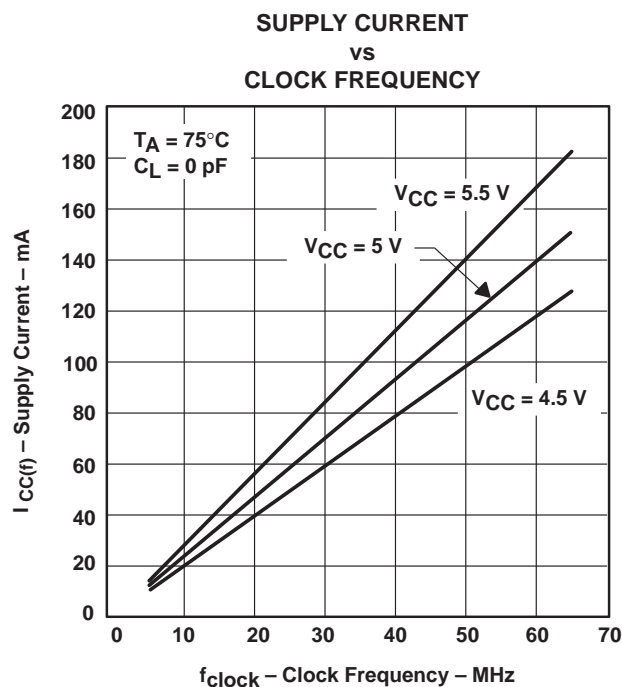

Figure 5
**switching characteristics over recommended ranges of supply voltage and operating free-air temperature,  $C_L = 50$  pF (unless otherwise noted) (see Figures 5 and 6)**